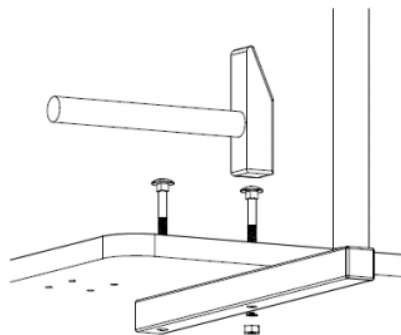

**Figure 1:** Attaching the double swivel castors
- ① 1 base panel
- ② 1 handlebar
- ③ 4 double swivel castors
- ④ 16 M6×30 coach bolts, DIN 603
- ⑤ 16 A6 spring lock washers, DIN 127
- ⑥ 16 M6 hexagon nuts, DIN 934
- ⑦ 4 M8×55 coach bolts, DIN 603
- ⑧ 4 A8 spring lock washers, DIN 127
- ⑨ 4 M8 hexagon nuts, DIN 934
First, attach the 4 double swivel castors ③ to the base panel ① (see figure 1).